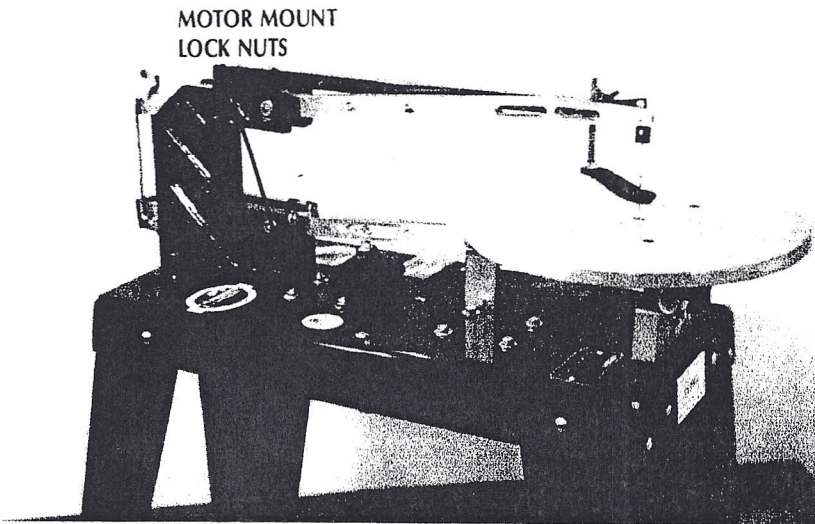

FIG. 15
1. Loosen the four 1/4" lock nuts on the motor mount bolts. (Fig. 15) They need only be loosened enough to allow the motor to slide in the adjustment slots in the base.